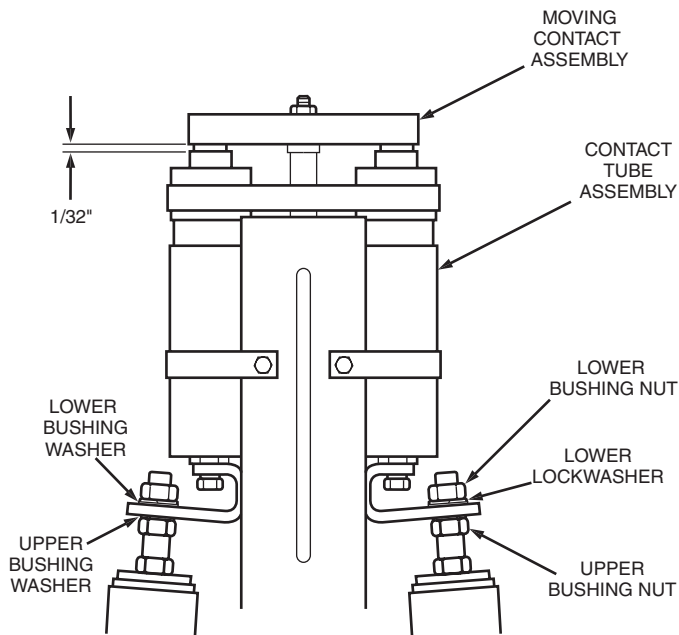

Figure 18.
To replace the stationary contact assembly (refer to Figure 18):
9. Recheck moving contact assembly for proper clearance (refer to Figure 18).
2. Remove lower bushing nuts, lockwasher and flat washer securing stationary contact assembly, Figure 18.
8. Adjust upper bushing nuts to provide 1/32" (.8 mm) clearance between moving contact assembly and contact tubes, refer to Figure 18.
10. Recheck contact assembly for proper clearance (refer to Figure 18).
1. Make sure the clearance between the moving contact assembly and the stationary contact tubes is 1/32 in. with the contacts full closed (Figure 18). To obtain the 1/32 in. clearance, adjust the stationary contact assembly at the upper bushing nuts.